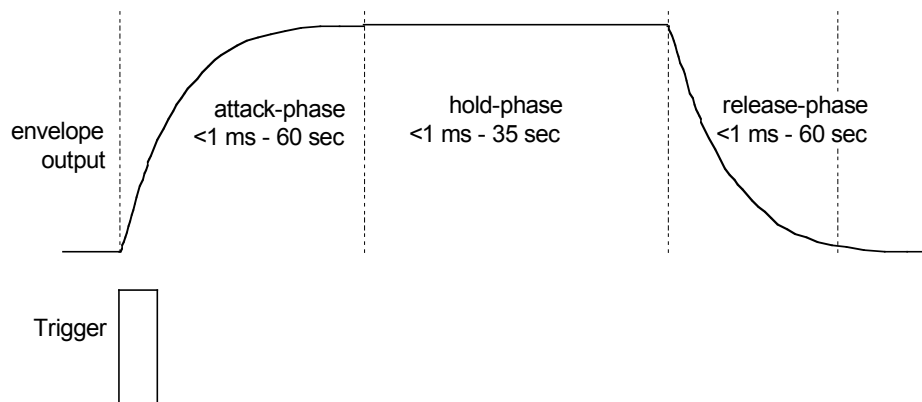

Fig. 9.5.2 AHR-envelope curve
Fig. 9.5.2 shows the basic curve of an AHR-envelope. The times apply for the value ranges with the control elements **[attack 1] (17)**, **[hold 1] (18)**, **[release 1] (19)** for ENV 1 resp. **[attack 2] (25)**, **[hold 2] (26)**, **[release 2] (27)** for ENV 2 on the frontpanel.